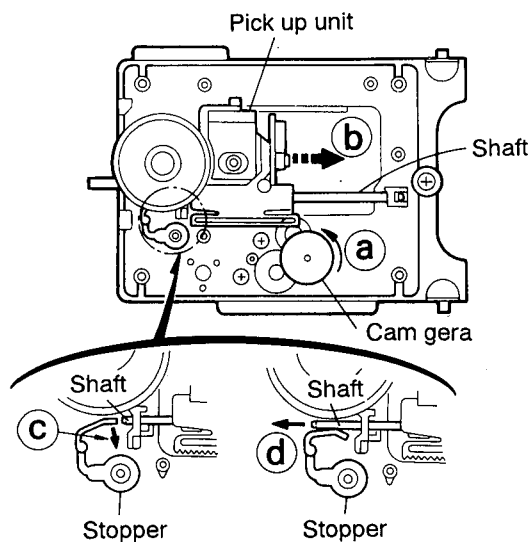

Fig. 2-22
## ■ Removing the CD pickup unit (See Fig. 2-22)
1. Move the cam gear in the arrow direction ①. Then, the CD pickup unit will be moved in the arrow direction ②.
2. According to the above step, shift the CD pickup unit to the center position (Fig. 2-22).
3. While pressing the stopper retaining the shaft in the arrow direction ③, pull out the shaft in the arrow direction ④ (See Fig. 2-22).